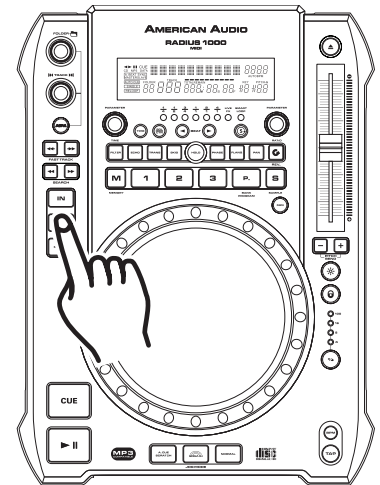

Figure 20
3) Press the *OUT BUTTON (15)* to set the ending point for your SEAMLESS LOOP (Figure 20). The *IN BUTTON (15)* and *OUT BUTTON (15)* LEDs will immediately begin to flash rapidly, indicating the SEAMLESS LOOP mode has been activated.
- 1) Press the *OUT BUTTON (15)* to return to normal play from the loops cue point. (Figure 20). This will disengage the SEAMLESS LOOP mode and allows you to edit the loops ending point.
- 2) Press the *OUT BUTTON (15)* again when you reach your new ending point (Figure 20).
- **FOR A SHORTER LOOP:** Press the *OUT BUTTON (15)* at sooner point in the track (Figure 20).
- **FOR LONGER LOOP:** Press the *OUT BUTTON (15)* at later point in the track (Figure 20).